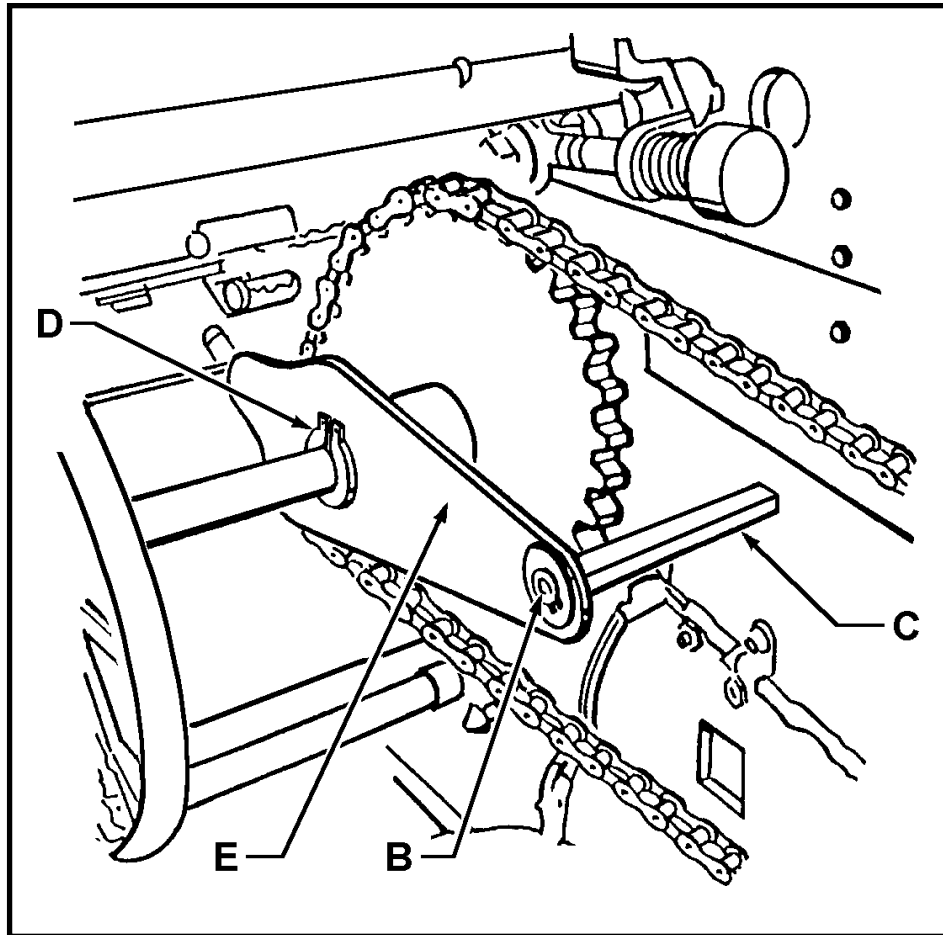

Figure 86 - Cam Removal
13. Remove the Tru-Arc ring (B) from the stud (C); then remove the stud (see Figure 86).
14. Loosen the Allen screw on the collar, shift the collar toward the non-operator side, remove the rear Tru-Arc ring (D) on the sprocket bar shaft, and slide the cam (E) towards the non-operator side of the press (see Figure 86).